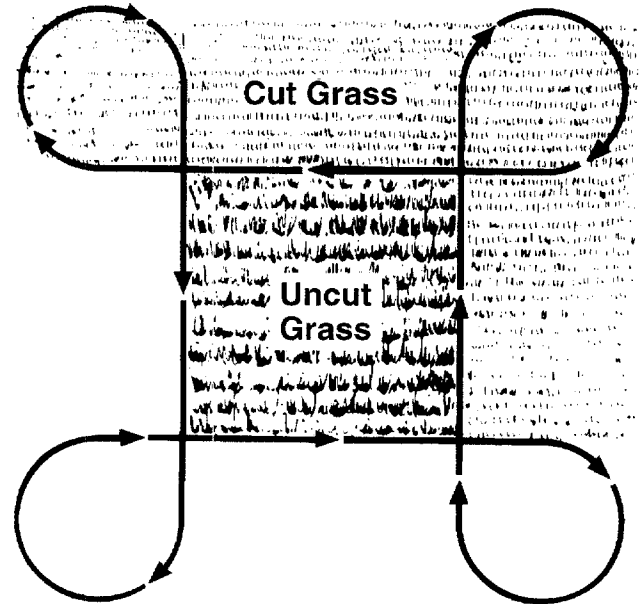

Figure 65
4. Follow the mowing pattern shown in Figure 65.